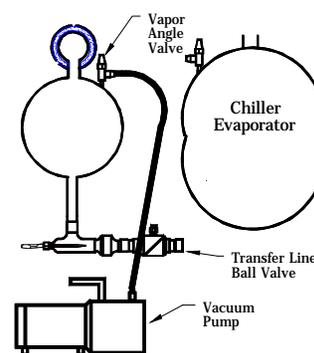

Figure 6. - Evacuating System
1. Close transfer line ball valve (see Figure 6).
1. Evacuate **SavAll™ System** to 2mm/hg or less (see Figure 6).